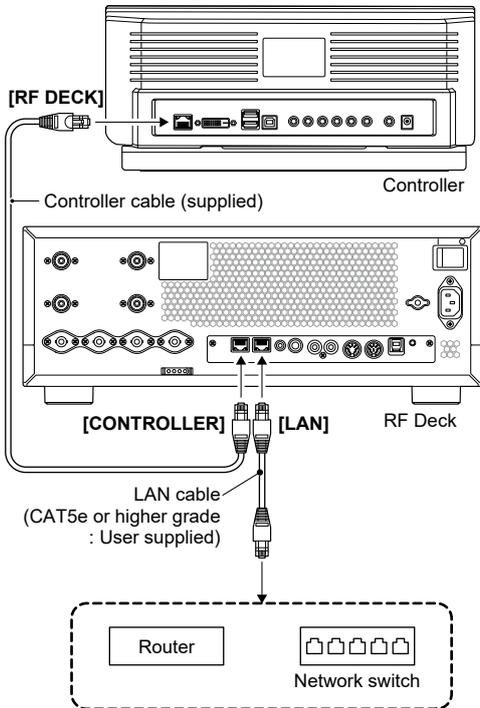

Figure 09-34. Connection with network switch or router (1)
- 2). Connect the [LAN] port of the RF Deck to a network switch or router (LAN side) with the connection in step 1). (Figure 09-34)